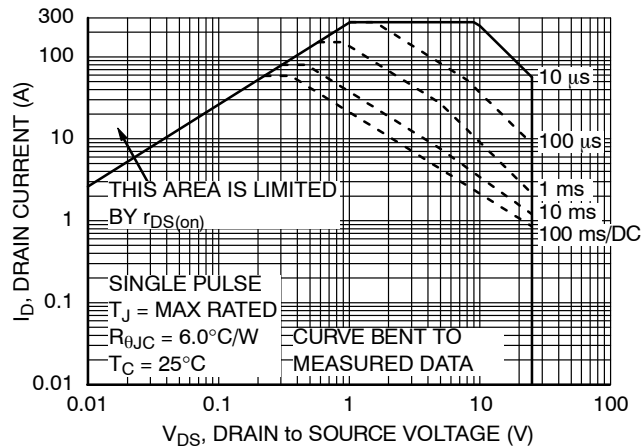
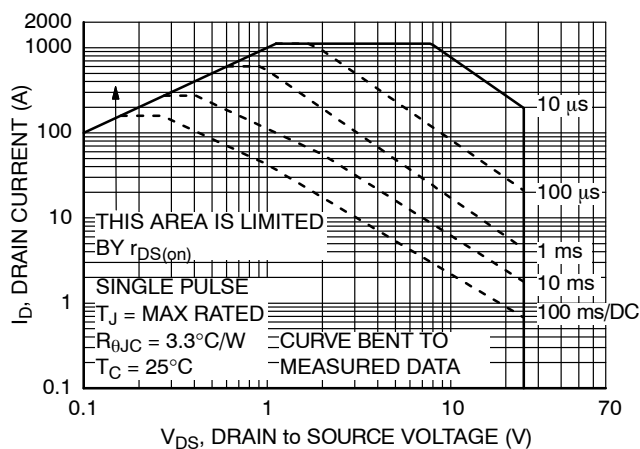

Figure 11. Forward Bias Safe Operating Area
Figure 24. Forward Bias Safe Operating Area
- Pulsed  $I_D$  please refer to Figure 11 and Figure 24 SOA graph for more details.